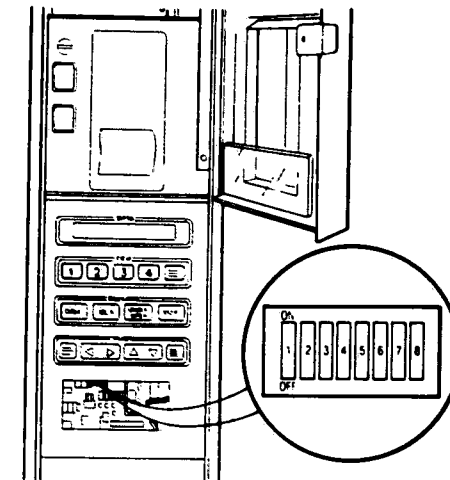

FIGURE 7-7 – Control PC Board Dip Switches
3. Make the appropriate settings on the Dip switches (six) on the Control PC board (Figure 7-7).